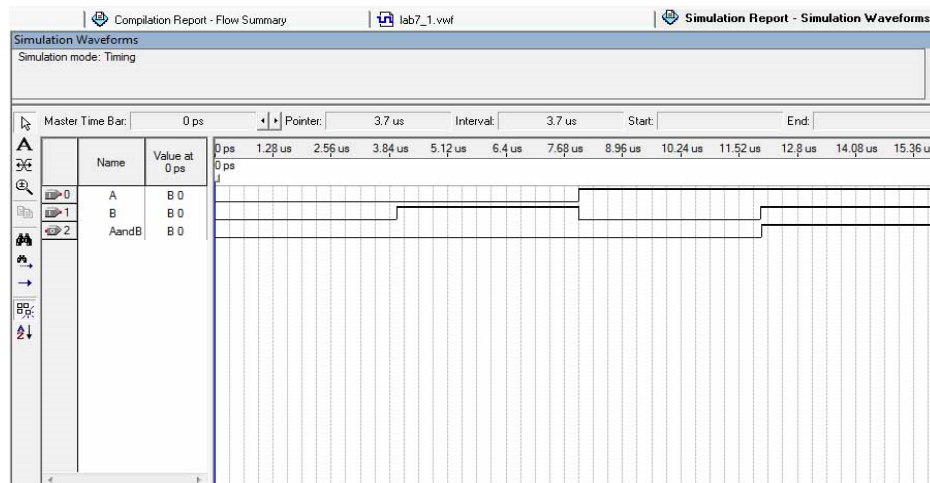

Figure 7-6
13. The Simulation Waveforms appear in the Simulation Report shown in the Figure 7-6. You may have to expand the size of the Simulation Waveforms to suit your need and choose **View > Fit in Window** to see the entire 16 μ s waveform.
9. Having downloaded the configuration data into the FPGA device, you can now test the implemented circuit. Flip the RUN/PROG switch to RUN position. Try all four valuations of the input variables A and B, by setting the corresponding states of the switches SW1 and SW0, respectfully. Verify that the circuit implements the truth table in Lab 6 or simulation results in Figure 7-6. The connections from the switches and LED to the DE2 board will allow you to test its logic operation. Remember, Each LED is driven directly by a pin on the Cyclone II FPGA; **driving its associated pin to a high logic level turns the LED on, and driving the pin low turns it off.**